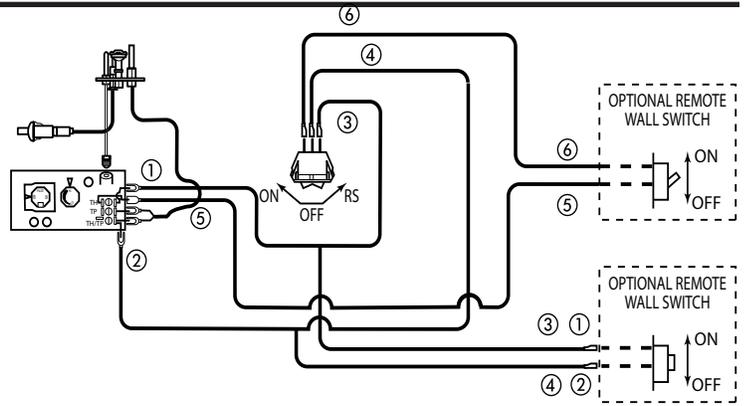

Figure 44 -
A remote wall switch and up to fifteen (15) feet of 18 Ga. wire may be used with this appliance. Attach the wall switch in a junction box at the desired location on the wall. *Figure 44* Do not extend beyond the wall switch wire length provided.